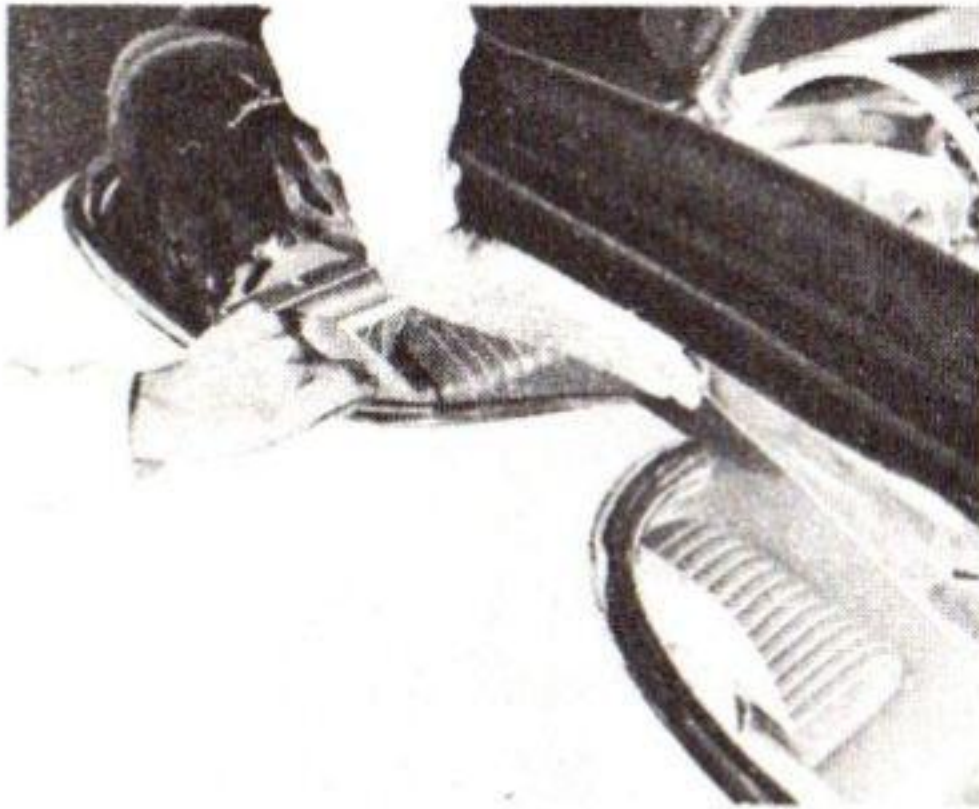

Fig. 41—Closing Folding Top Lid
4. Hold the still folded top all the way forward and close the folding top lid (fig. 41).